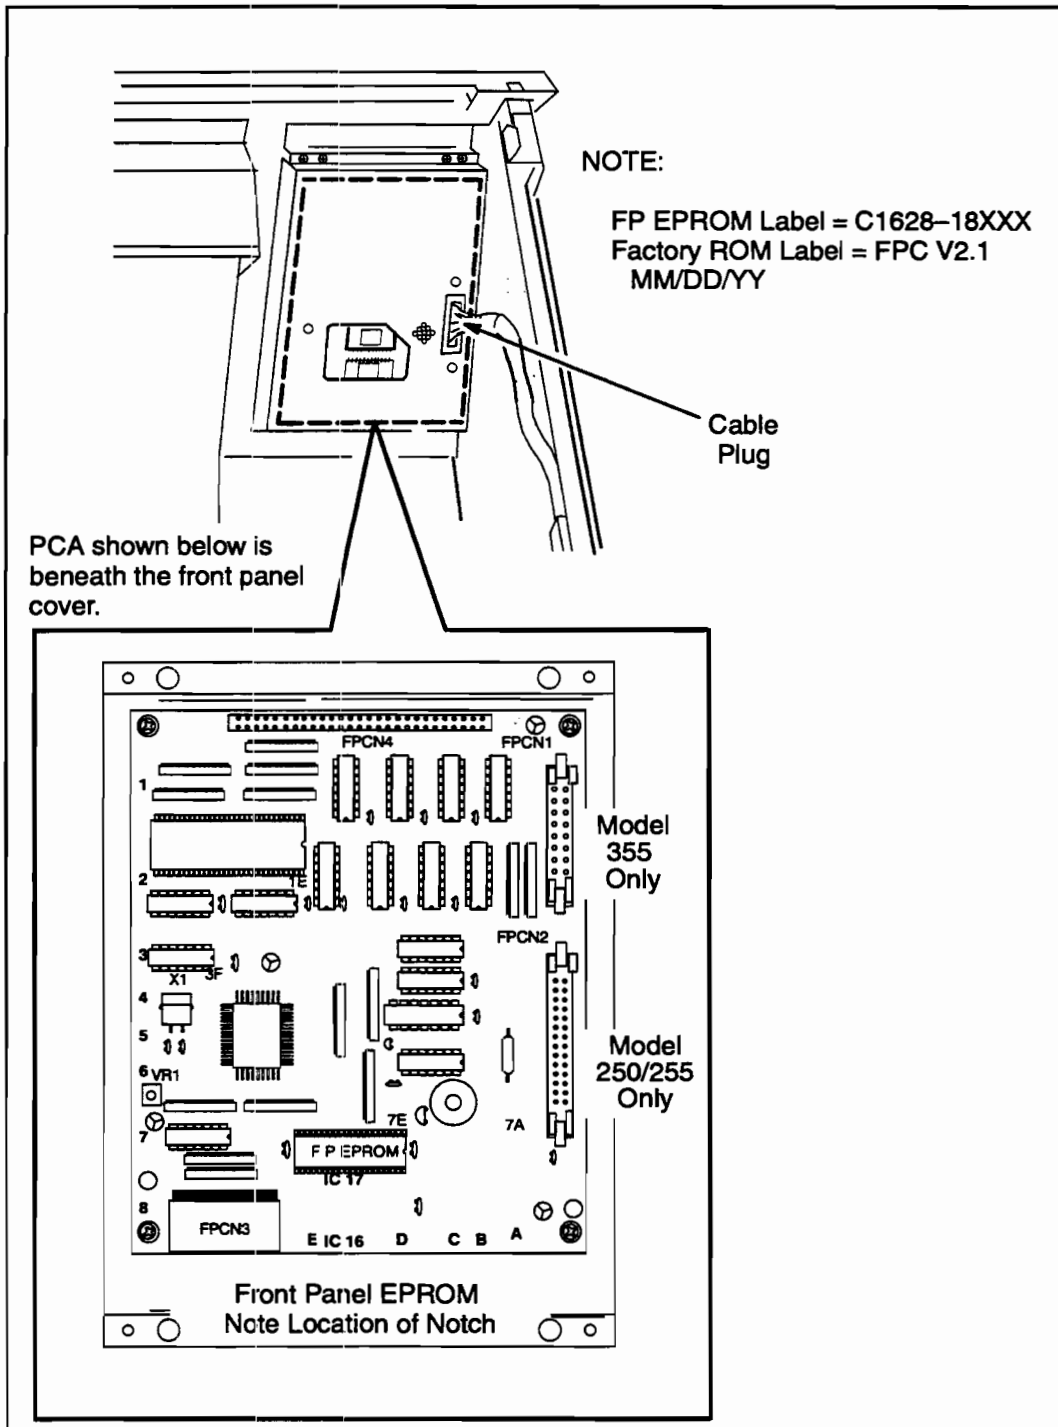

Figure 3-6. Front Panel Removal and EPROM Location
1. Set the ac line switch to the OFF (O) position.
3. Locate the EPROM socket. If an EPROM is installed, remove it. See Figure 3-6.